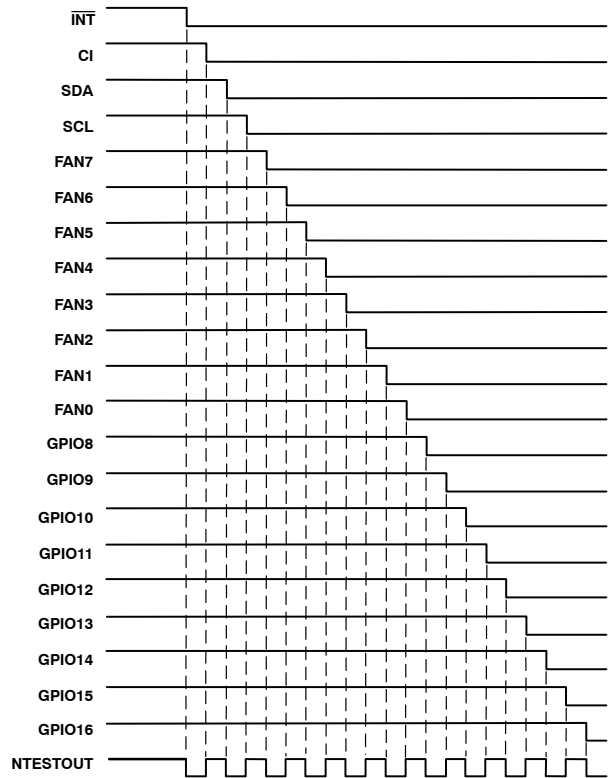

Figure 57. NAND Tree Test Taking Inputs Low in Turn
2. Start with all inputs high and take them low in turn, starting with the input furthest from NTEST\_OUT ( $\overline{\text{INT}}$ ) and working down the tree to the input nearest to NTEST\_OUT (GPIO16/ $\overline{\text{THERM}}$ ). This should give a similar output pattern to Figure 57.